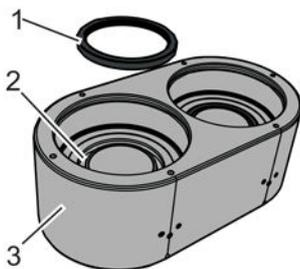

Fig. 119: Inserting the shaft seal
1. → Insert the shaft seal (Fig. 119/1), the interior filled with Mobilux EP2 grease, starting from the bearing seat with the open side facing downward, into the seal seat (Fig. 119/2) of the bearing housing (Fig. 119/3).